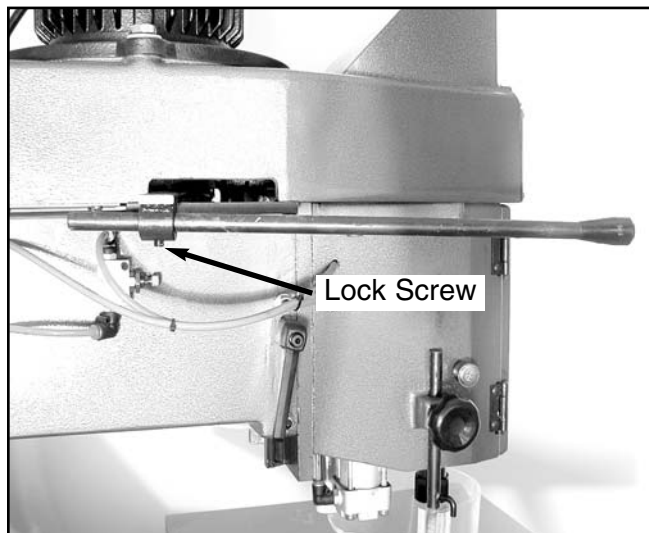

Figure 11. Installed brake lever.
1. Slide the brake lever into its hole as shown in **Figure 11**.
1. Place the fence at the location in which it is to be used as shown in **Figure 11**.